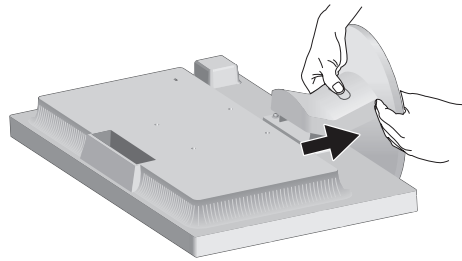

Figure R.4
2. Using your thumb, press the button to unlock (**Figure R.4**).
3. With the button pressed in, pull off the Base Stand (**Figure R.4**).